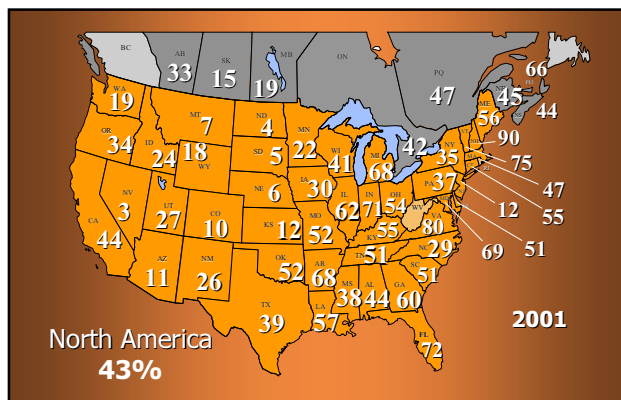
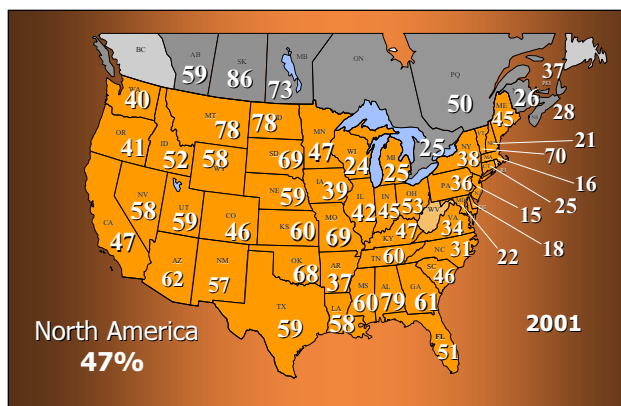

Figure 1. Percent of samples testing medium or below for potassium.
Figure 2. Percent of samples testing medium or below for phosphorus.
The 2001 PPI soil test levels summary update¹ showed a large percentage of samples analyzed by North American commercial and public soil testing laboratories indicated a need to increase fertilizer applications of phosphorus (P) and potassium (K) to maintain productivity. See **Figure 1** and **Figure 2**. Changes in optimum crop rotation have resulted in accelerated removal of nutrients from the soil, with no compensatory changes in fertilizer application.